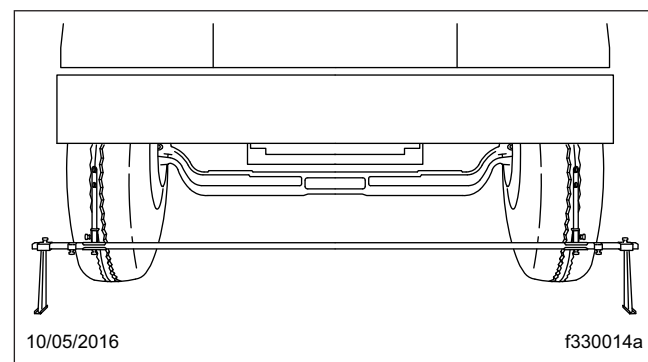
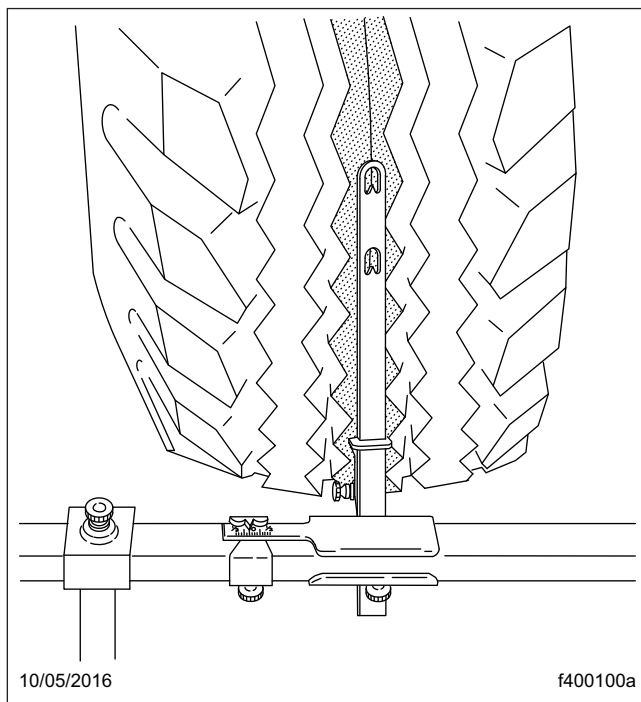

Fig. 4, Trammel Bar Positioning
Fig. 5, Setting Trammel Bar Pointers
7. Place the trammel bar at the front of the tires (see **Fig. 4**) and adjust the scale end so that the pointers line up with the scribe lines. See **Fig. 5**.